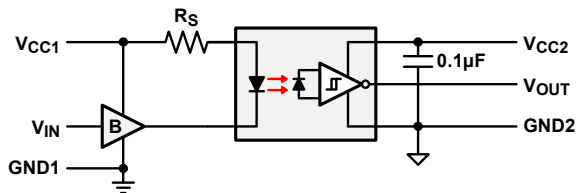

Figure 3. Typical LED Drive Circuit
- Figure 3. Typical LED Drive Circuit 3
Figure 3 shows a typical drive circuit for optocouplers using a single resistor (R_S) that sets the forward current of the LED. Its value is calculated using Equation 1: